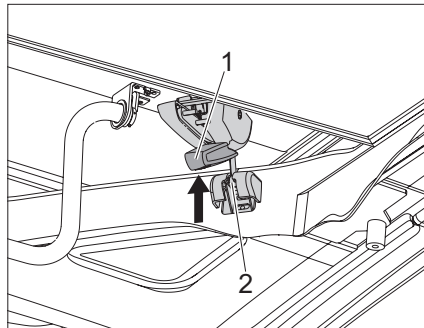

Fig. 43 Tensioning the locking mechanisms
- ▶ Before starting your journey, check whether the locking hooks of the locks (Fig. 43,1) on the left and right are correctly tensioned. If necessary, adjust the lock according to the instructions from the manufacturer SCA.
- ▶ Push the pin (Fig. 43,2) into the holder.
- ▶ Push up the locks (Fig. 43,1) on the left and right.
- ▶ Check that there is no play in the pin (Fig. 43,2).